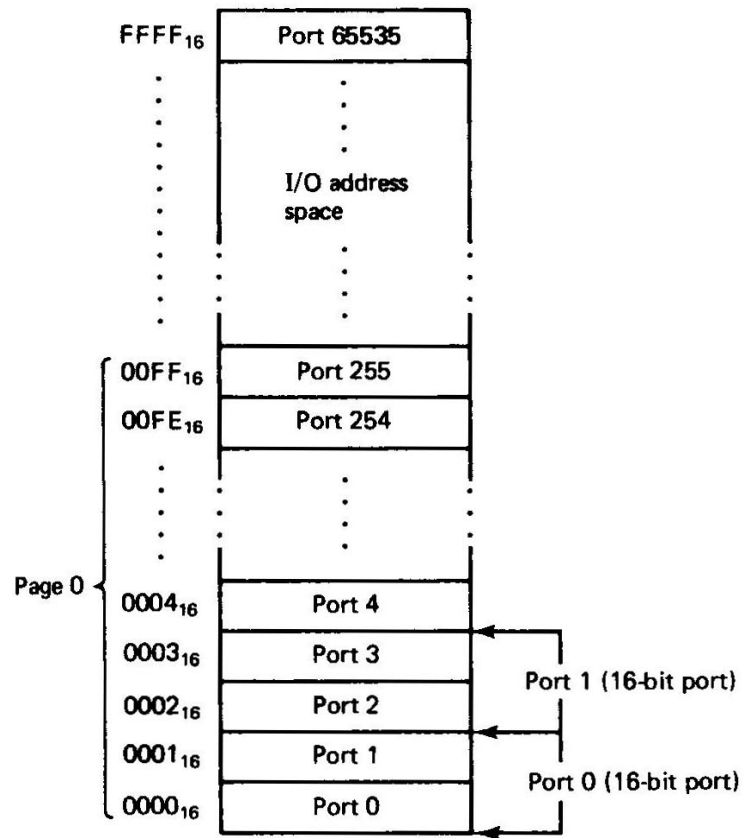

Figure 8-45 Isolated I/O ports.
- **Fig. 8-45** shows that bytes of data in two consecutive I/O addresses could be accessed as **word-wide data**. For instance, I/O addresses 0000_H , 0001_H , 0002_H , and 0003_H can be treated as independent byte-wide I/O ports: **ports 0, 1, 2 and 3**, or as word-wide **ports 0 and 1**.